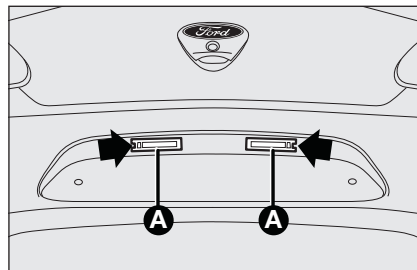

fig. 24
**NUMBER PLATE LIGHTS fig. 24**